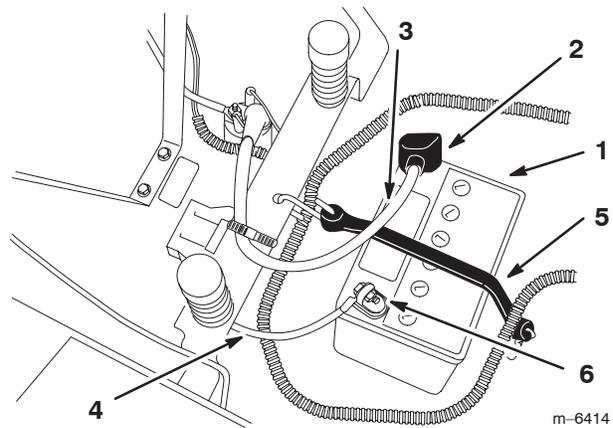

Figure 32
4. Disconnect the negative (black) ground cable from the battery post (Fig. 32).
5. Slide the rubber cover up the positive (red) cable. Disconnect the positive (red) cable from the battery post (Fig. 32).
6. Remove the battery hold-down (Fig. 32) and lift the battery from the battery tray.
1. Position the battery in the tray with the terminal posts away from the control panel (Fig. 32).
4. Secure the cables with 2 bolts (1/4 x 3/4 inch), washers (1/4 inch), and nuts (1/4 inch) (Fig. 32).
6. Secure the battery with the hold-down (Fig. 32).